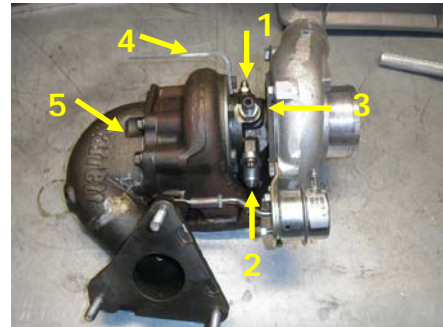

Fig. 5
11. Prepare the turbo for installation – install the oil inlet fitting, the oil drain fitting, water inlet fitting, heat shield bracket and the down pipe prior to installing the turbocharger (Figure 5):